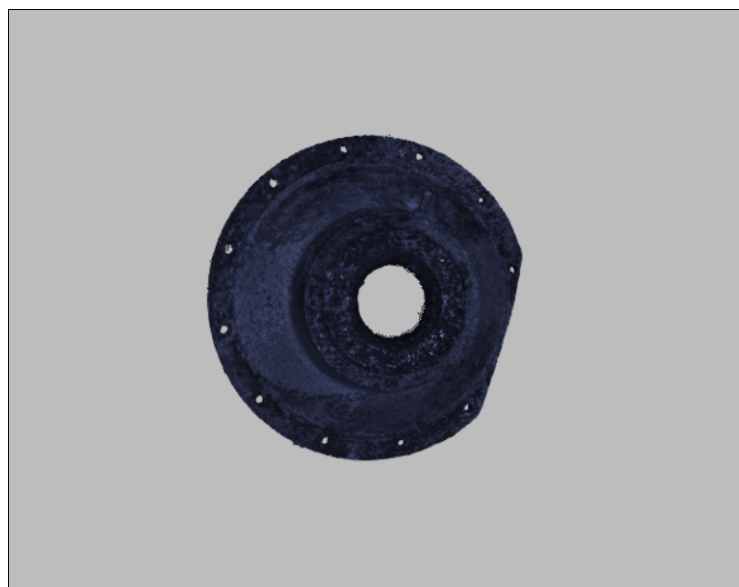

Figure 140: Alignment result.
5. Click *Align*. The result should be as Figure 140 depicts. If you are dissatisfied with this result, click  and follow the recommendations in Best Fit Alignment with Points.